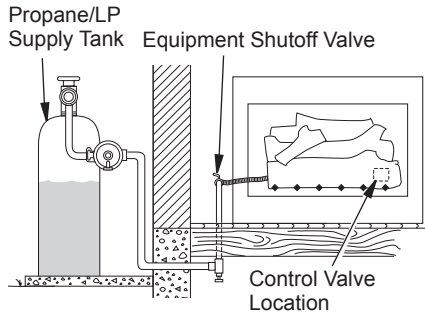

Figure 16 - Checking Gas Joints (Propane/LP Gas Only)
3. Check all joints from gas meter (natural gas) or propane/LP supply to equipment shutoff valve (see Figure 16 or 17). Apply a commercial leak detection solution to all joints. Bubbles forming show a leak.
4. Check all joints from gas meter (natural gas) or propane/LP supply to equipment shutoff valve (see Figure 16 or 17). Apply a commercial leak detection solution to all joints. Bubbles forming show a leak.